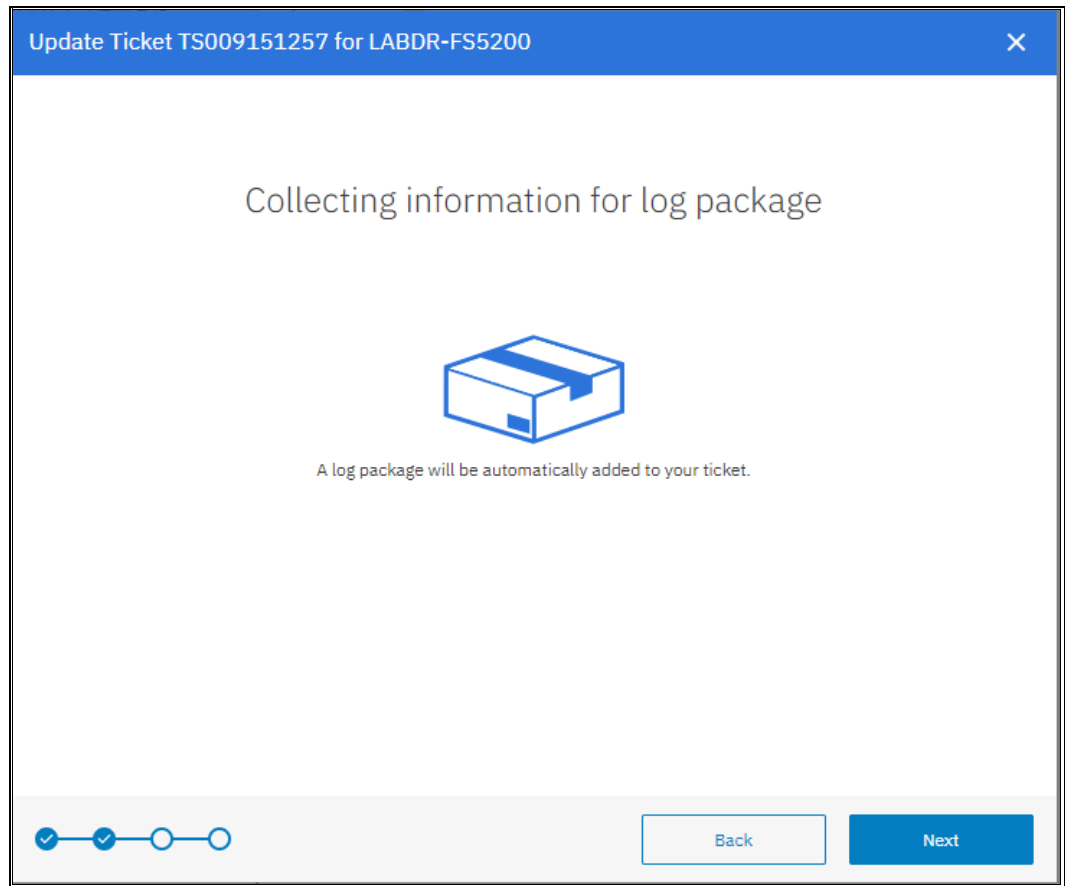

Figure 11-25 Collecting new logs
3. After the type of log is selected, click **Next**. The log collection starts. When completed, the log completion window is displayed, as shown in Figure 11-25.